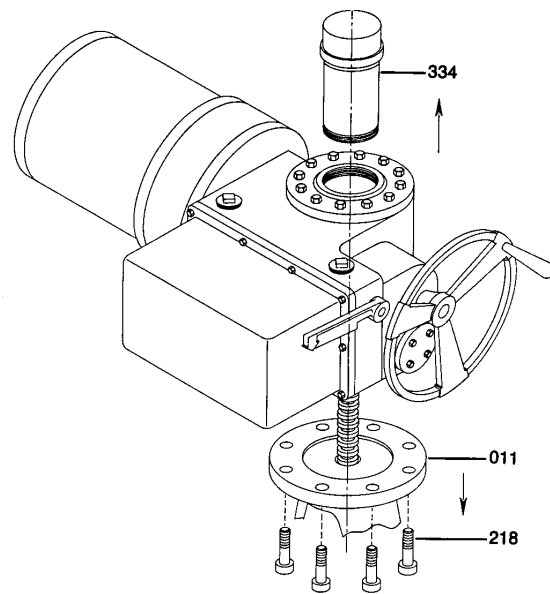

Figure 12
Although various types of electric motor actuators (Fig. 12) are supplied, all follow the same pattern for their removal from the valve. Prior to removal, all power and control wiring should be disconnected from the actuator. With the stem protector (334) and capscrews (218) removed, and the actuator properly supported, it can be raised in the same manner as the gear unit.